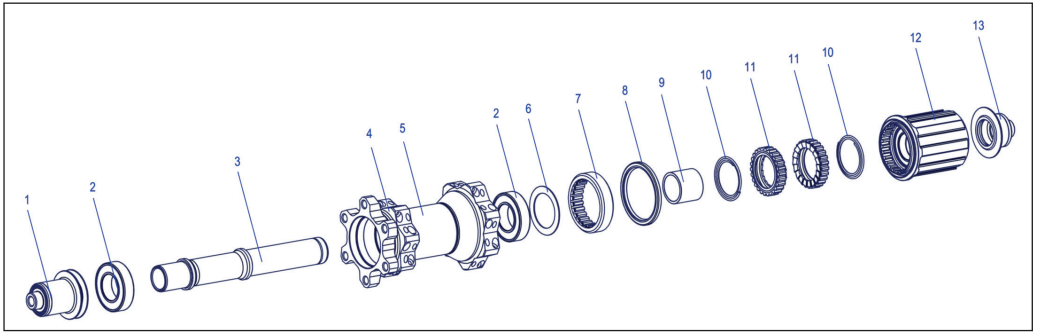

figure 2: rear wheel hub
1. Clamp the left adapter (figure 2/1) into a vice.
3. Clamp the right adapter (figure 2/13) into a vice.
5. Pull the rotor (figure 2/12) off the hub.
6. Take the springs (figure 2/10), the star ratchets (figure 2/11) and the spacer (figure 2/9) off the hub.
3. Turn the hub counter clockwise and unscrew the ring nut (figure 2/7).
- The sealing (figure 2/8) sitting in front of the ring nut will be released from its press fit while unscrewing the ring nut.
5. Remove the ring nut (figure 2/7), the sealing (figure 2/8) and the shim ring (figure 2/6).
1. Tap out the bearing on the non drive side (figure 2/2) with slight hammer strokes onto the axle.
1. Slide the short end of the axle (figure 2/3) into the bearing (figure 2/2) on the drive side.
2. Check the rotor (figure 2/12) for damages.